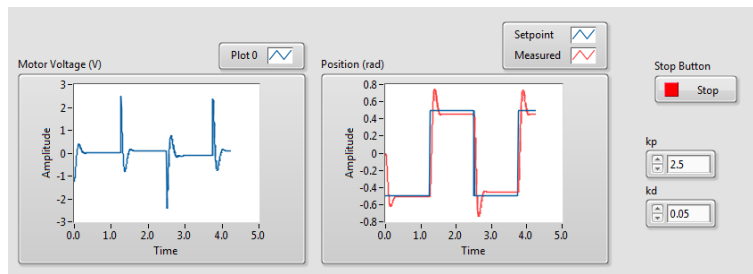

Figure 7.4: QUBE-Servo PV control with $k_p = 2.5$ and $k_d = 0.05$.
1. Design and run the VI. The response should look similarly as shown in Figure 7.4.